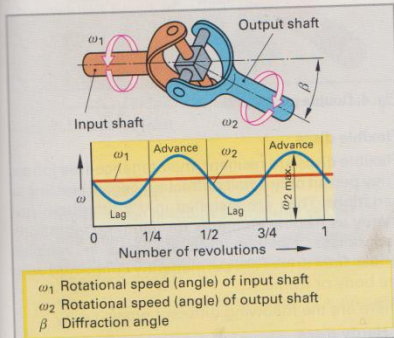

Fig. 2: Universal joint with deflection angle
If a deflection angle  $\beta$  exists between the input and output of a universal joint (Fig. 2), the output shaft with the input shaft at uniform rotational speed  $\omega_1$  executes a non-uniform motion with sinusoidally alternating rotational speed  $\omega_2$ .
**Gimbal error.** With 1 revolution of the input shaft, two advances and two lags occur at the output shaft (gimbal error) (Fig. 2).